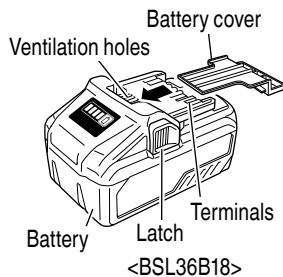

Fig. 7
- Either install the battery in the power tool or store by securely pressing into the battery cover until the ventilation holes are concealed to prevent short-circuits (See Fig. 7).